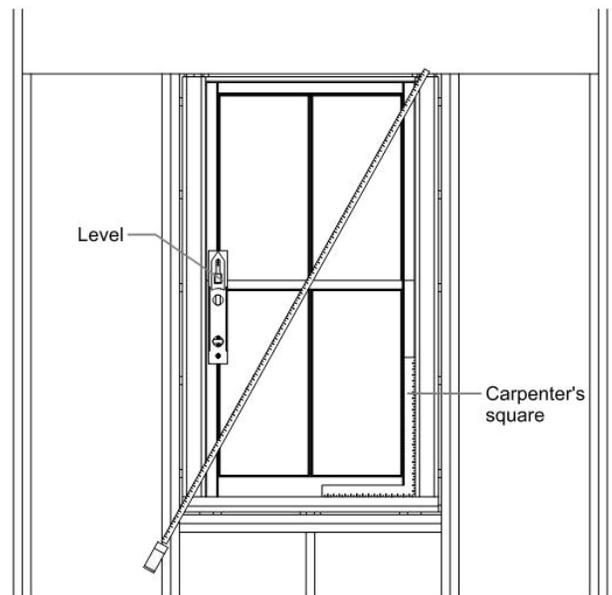

Figure 4
- 4) Confirm squareness of existing window. Confirm the existing window is square by measuring both diagonals. If the two diagonal measurements differ by more than 1/4", an out-of-square adjustment in the width of the window must be made. The adjustment is determined by creating a plumb line (using a level) from each corner to the sill or head. Using a plumb line that falls within the window opening, measure the out of square adjustment. Subtract this measurement from the smallest width measurement. Record this adjustment width as the smallest width. *(See Figure 4 on next page)*